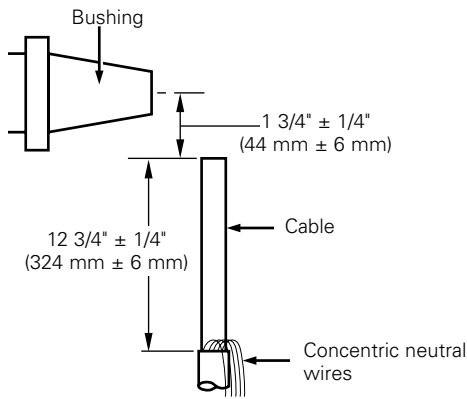

Figure 15. Line illustration of removing concentric neutral wires.
- Measure 12 3/4" (324 mm) from end of cable. Refer to Figure 15.
- For unjacketed neutral cable, bind neutral wires using three (3) wraps of tape at 12 3/4" dimension.